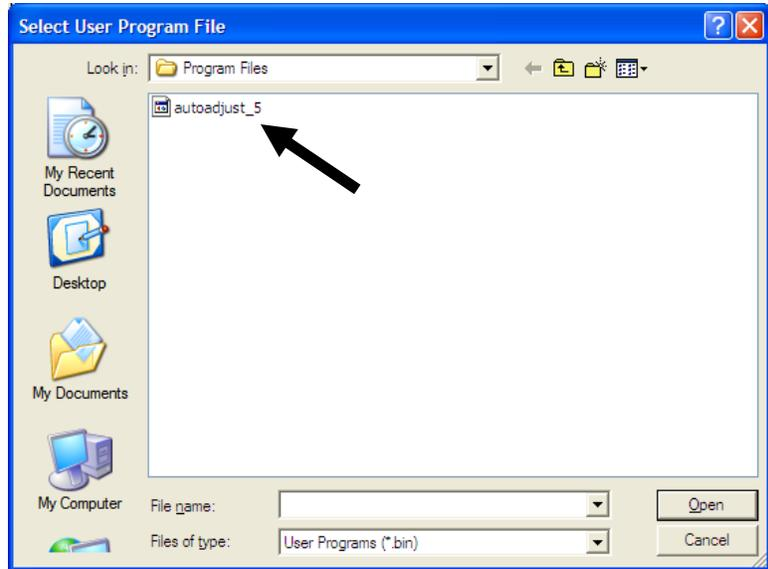

Figure 6. Select User Program File
4. Click **Browse** in the Download User Program File frame. The Select User Program File screen displays (see *Figure 6*).
5. Select the path and user program file to download from the CD-ROM. (Program files are typically located in the Program Files folder on the CD-ROM). As *Figure 6* shows, the screen lists all valid user program files with the .BIN extension: